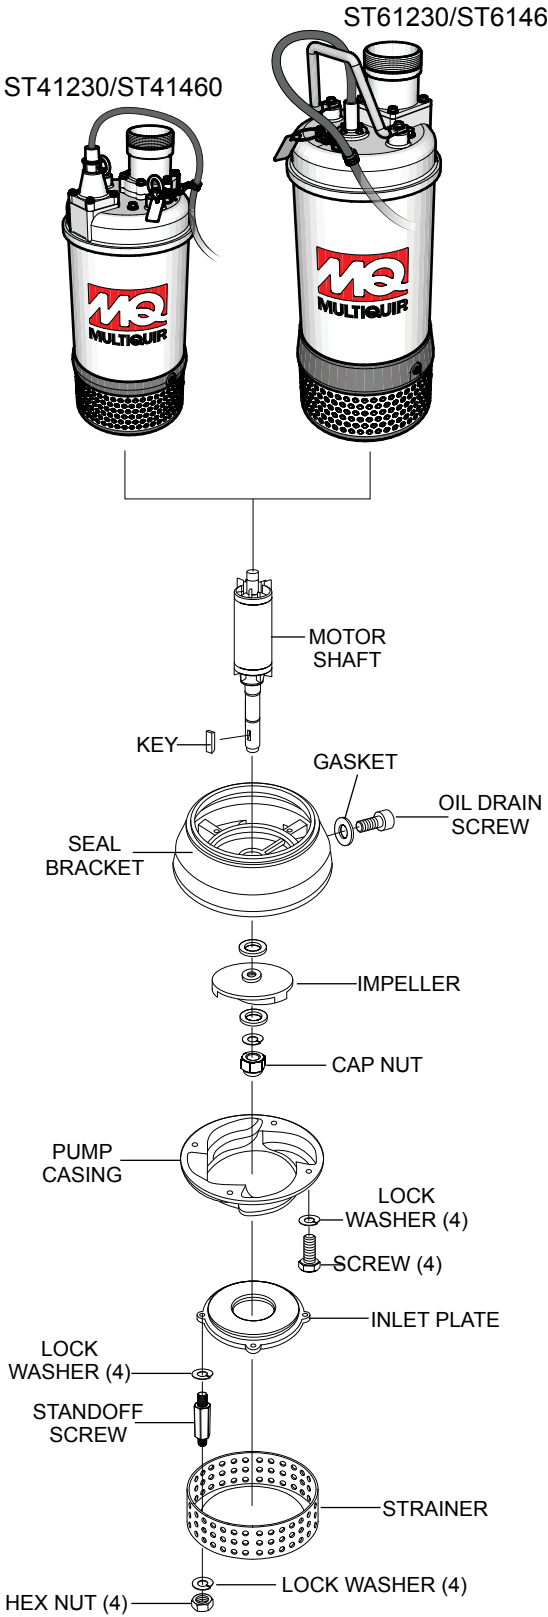

Figure 24. Impeller Removal
Refer to the the following procedure and Figure 24 for the removal of the impeller.
1. Remove oil screw and gasket from the oil fill chamber port. Drain oil from oil chamber as referenced in Figure 24.